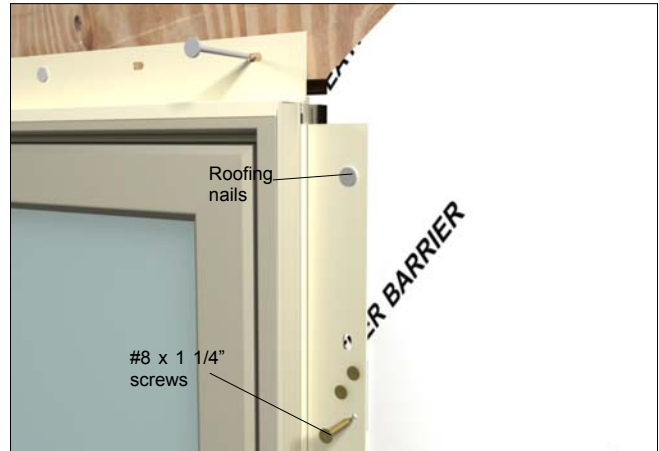

Figure 7 Fasten clips through nailing fin.
*NOTE: If using construction adhesive, use APA rated AFG-01 spec, construction adhesive. Make sure the adhesive is compatible with all building materials and the unit frame. When using installation and mull clips in conjunction with nailing fin, fasten the clips to the rough opening with #8 x 1 1/4" screws. See figure 7.*